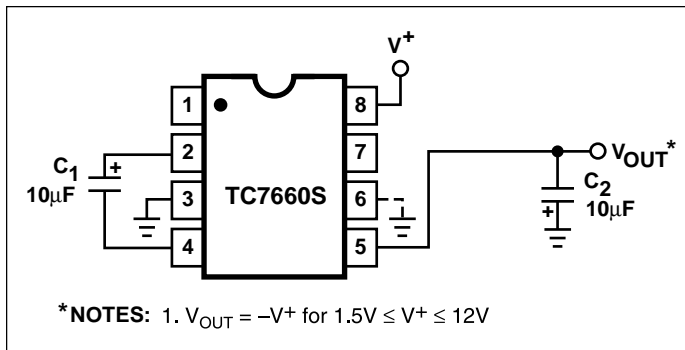
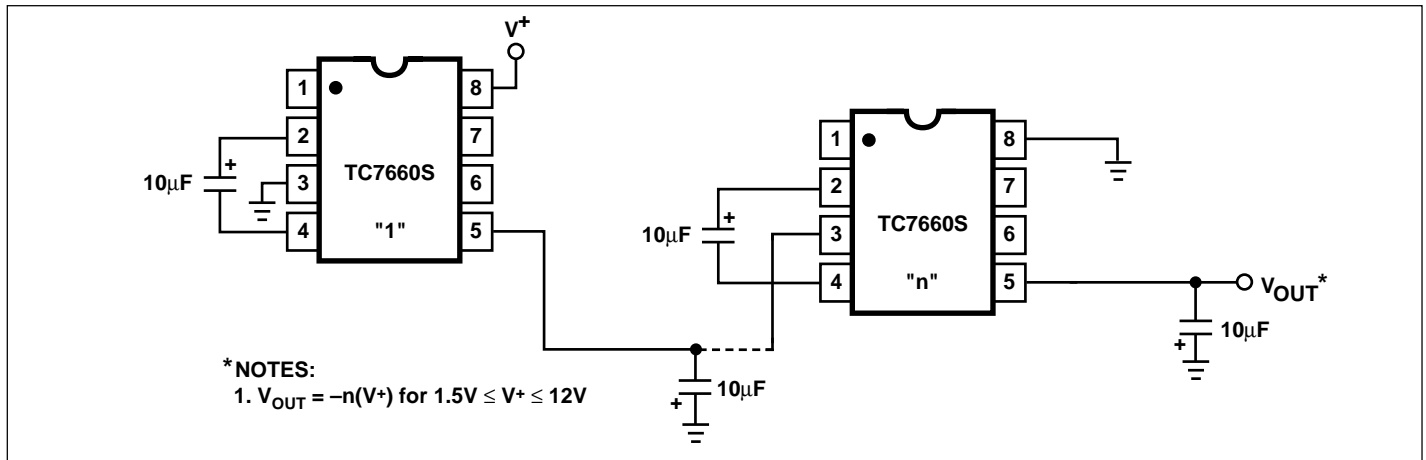
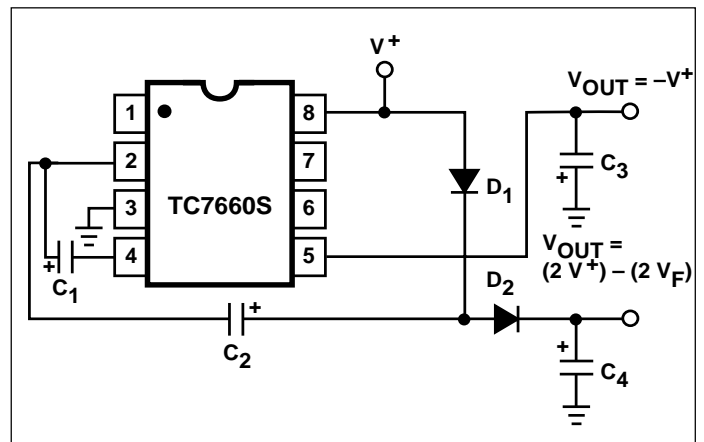
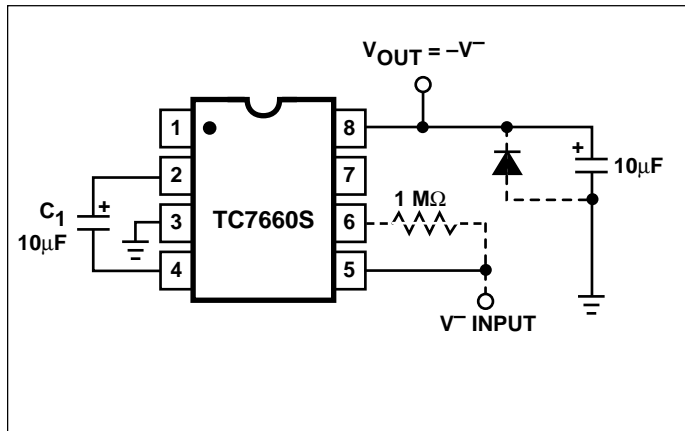

Figure 3. Simple Negative Converter
Figure 5. Increased Output Voltage by Cascading Devices
Figure 9. Combined Negative Converter and Positive Multiplier
Figure 10. Positive Voltage Multiplier
Figure 3 shows typical connections to provide a negative supply where a positive supply is available. A similar scheme may be employed for supply voltages anywhere in the operating range of +1.5V to +12V, keeping in mind that pin 6 (LV) is tied to the supply negative (GND) only for supply voltages below 3.5V.
The output characteristics of the circuit in Figure 3 are those of a nearly ideal voltage source in series with 70Ω . Thus, for a load current of $-10mA$ and a supply voltage of $+5V$, the output voltage would be $-4.3V$.
The TC7660S may be cascaded as shown (Figure 5) to produce larger negative multiplication of the initial supply voltage. However, due to the finite efficiency of each device, the practical limit is 10 devices for light loads. The output voltage is defined by:
Figure 9 combines the functions shown in Figures 3 and 8 to provide negative voltage conversion and positive voltage multiplication simultaneously. This approach would be, for example, suitable for generating +9V and -5V from an existing +5V supply. In this instance, capacitors C_1 and C_3 perform the pump and reservoir functions, respectively, for the generation of the negative voltage, while capacitors C_2 and C_4 are pump and reservoir, respectively, for the multiplied positive voltage. There is a penalty in this configuration which combines both functions, however, in that the source impedances of the generated supplies will be somewhat higher due to the finite impedance of the common charge pump driver at pin 2 of the device.
Since the switches that allow the charge pumping operation are bidirectional, the charge transfer can be performed backwards as easily as forwards. Figure 10 shows a TC7660S transforming -5V to +5V (or +5V to +10V, etc.). The only problem here is that the internal clock and switch-drive section will not operate until some positive voltage has been generated. An initial inefficient pump, as shown in Figure 9, could be used to start this circuit up, after which it
will bypass the other (D_1 and D_2 in Figure 9 would never turn on), or else the diode and resistor shown dotted in Figure 10 can be used to "force" the internal regulator on.
The same bidirectional characteristics used in Figure 10 can also be used to split a higher supply in half, as shown in Figure 11. The combined load will be evenly shared between the two sides. Once again, a high value resistor to the LV pin ensures start-up. Because the switches share the load in parallel, the output impedance is much lower than in the standard circuits, and higher currents can be drawn from the device. By using this circuit, and then the circuit of Figure 5, +15V can be converted (via +7.5V and -7.5V) to a nominal -15V, though with rather high series resistance (~250Ω).